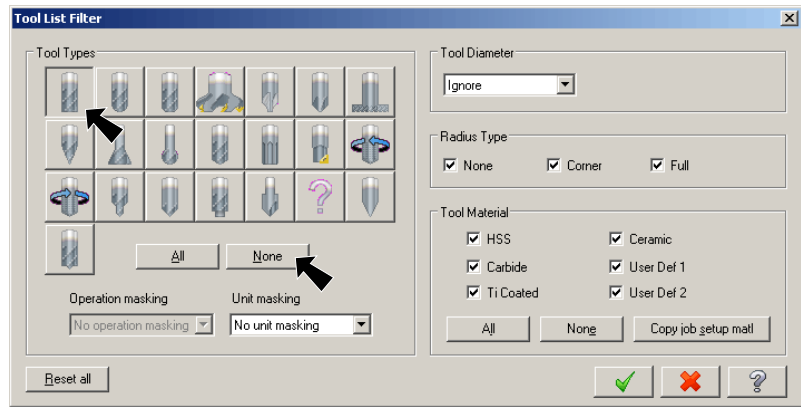

Fig. 22
Step 10. Click **None** button under **Tool Types**, Fig. 22.
Step 11. Click **Endmill1 Flat** button (first button top row), Fig. 22 and click OK.